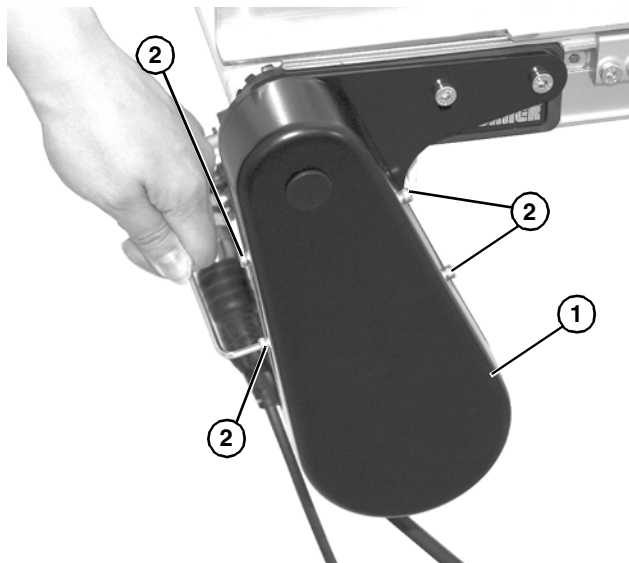

Figure 12
- Install cover (**Figure 12, item 1**) with four M6 screws (**Figure 12, item 2**).